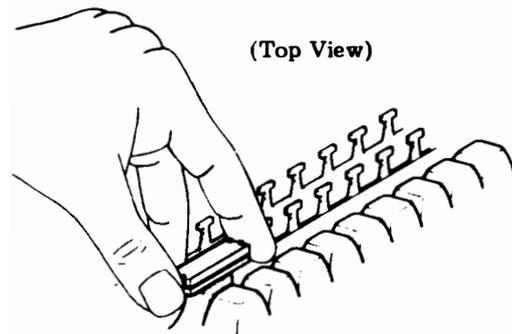

Fig. 27—Cable Connector Removal
- (e) Grasp the cable connector using thumb and index finger (Fig. 27).